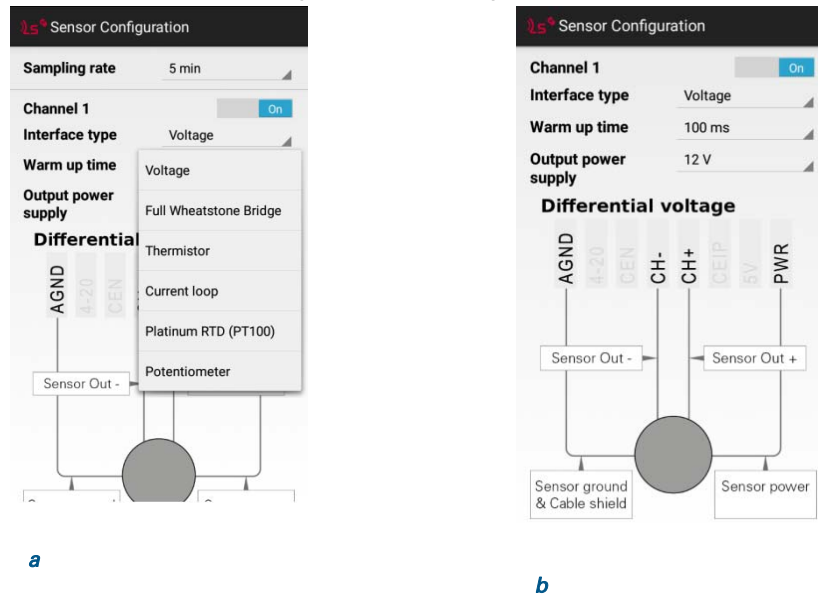

Figure 9: Sensor configuration options of LS-G6-ANALOG-4ch
- ANALOGUE datalogger (Figure 9): this datalogger supports six different analogic sensor types: voltage, full Wheatstone bridge, thermistor, current loop, PT100,